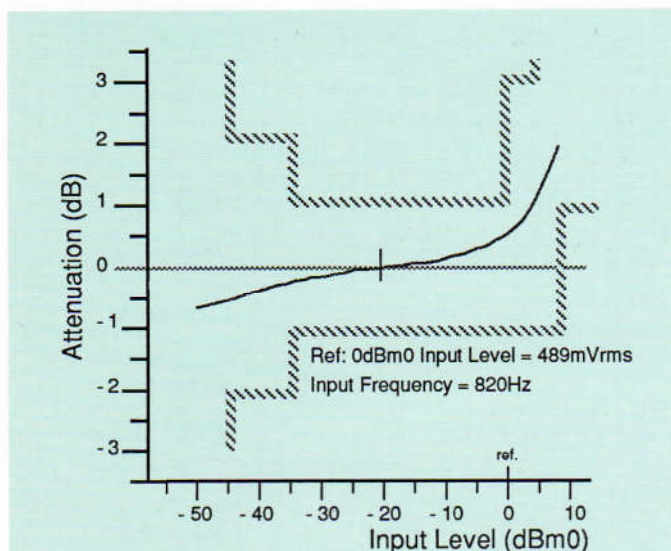

Fig.5 Gain vs Input Level (16kbit/s)
5. Recommended values – See Figures 5, 6, 7 and 8.